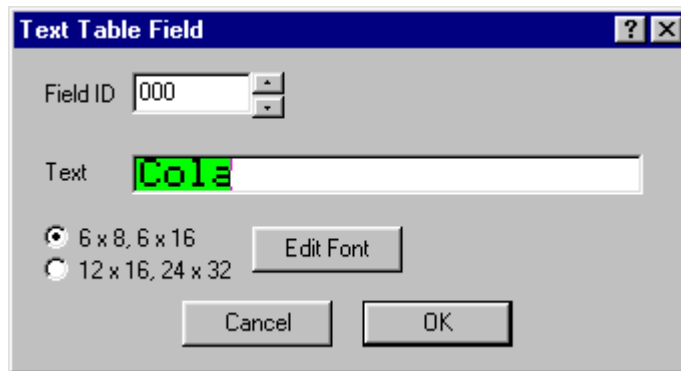

Figure 9.11 – Text Table Field Entry
1. Click Add Figure 9.11 is displayed.